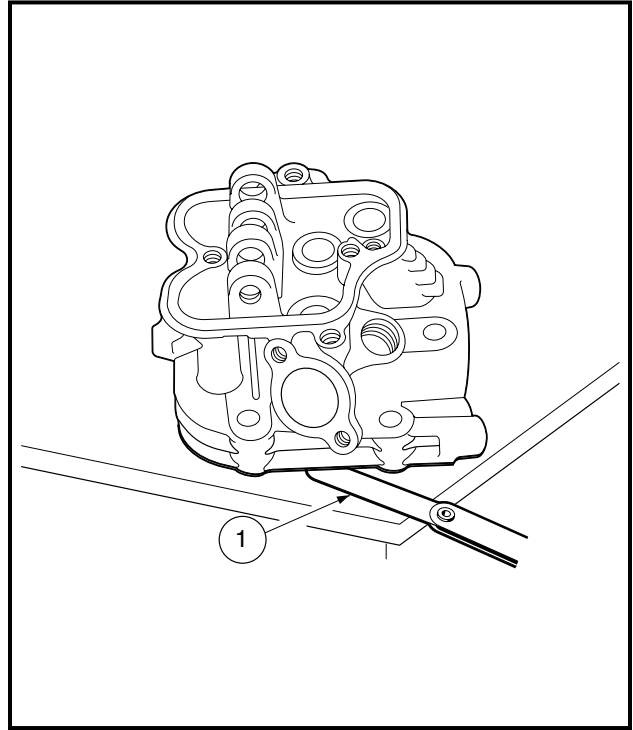

Figure 3-12 Check Flatness of Head Surface
4. Place the cylinder head on a surface plate (**Figure 3-12, Page 3-9**).
5. Measure the space between the surface plate and the head with a feeler gauge (1) to check the flatness of the head surface.